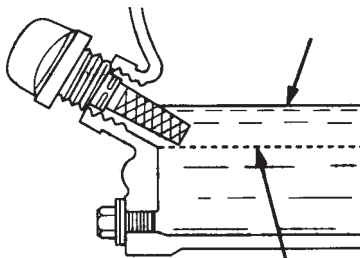

Figure 4. Engine Oil Dipstick (Oil Level)
4. If the oil level is low (Figure 4), fill to the edge of the oil filler hole with the recommended oil type (Table 3). Maximum oil capacity is 0.63 quarts (0.60 liters)